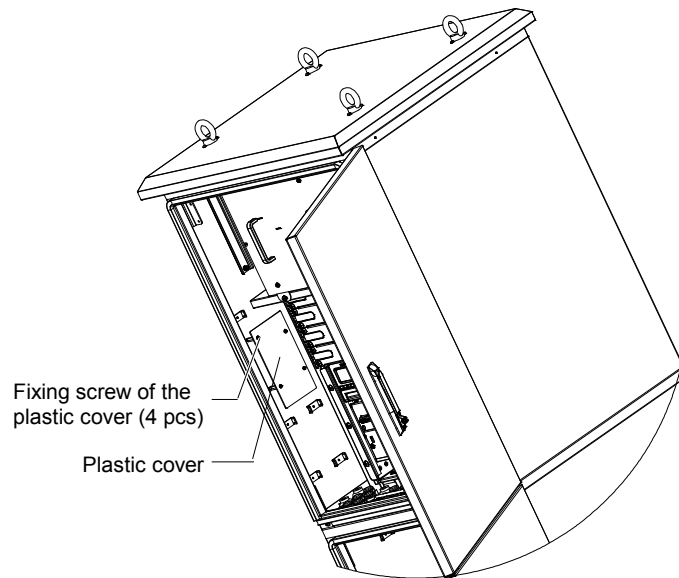

Figure 5-17 Position of the plastic cover
Step 1: Loosen the four fixing screws to remove the plastic cover of the heat control board, as shown in Figure 5-17.